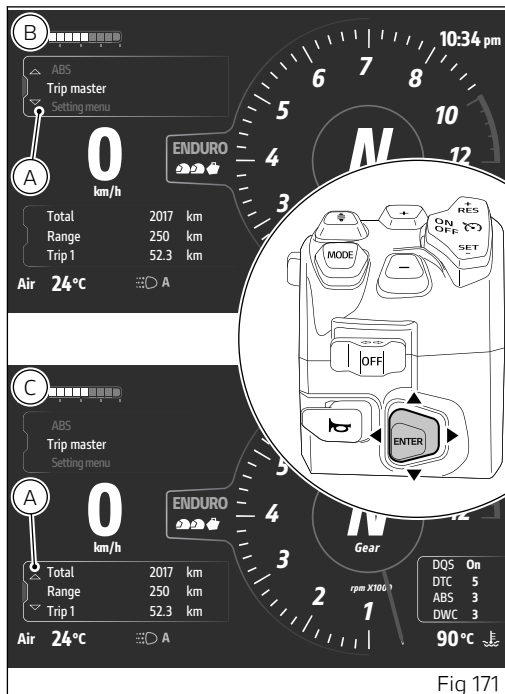

Fig 171
When one of the menus is selected, it is indicated with the active frame (A, Fig 171) and the joystick is used for menu navigation and interaction.
- if "Interactive menu" is currently selected, hold the joystick pressed in position ▼ for a long time to move the selection to "Info display" (C, Fig 171);
(B, Fig 171).